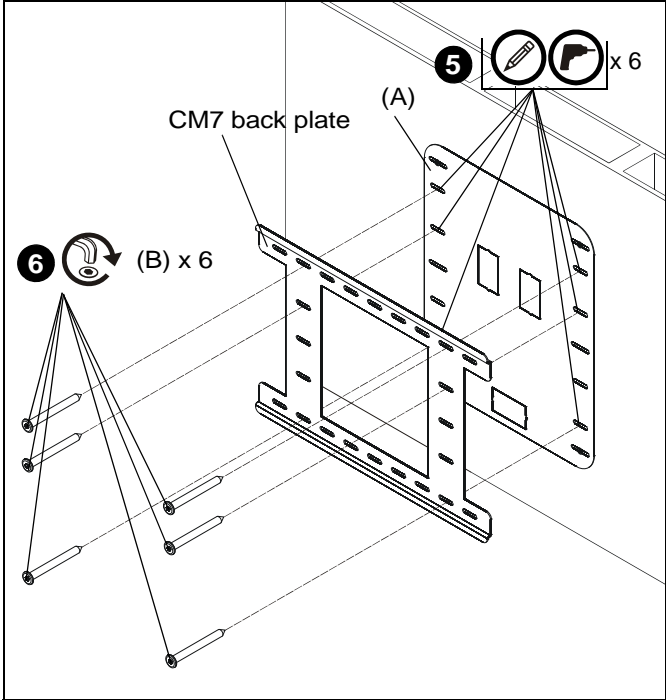

Figure 5
5. Mark and drill six 3/16" holes in wall at the location of the second, third and sixth holes on each side of CM1TOCM7 adapter. (See Figure 5)
6. Use driver bit (C) to install six M7 x 70 Allen head connector screws (B) through CM7 wall plate, CM1TOCM7 adapter and into 3/16" holes in wall from Step #5. (See Figure 5)